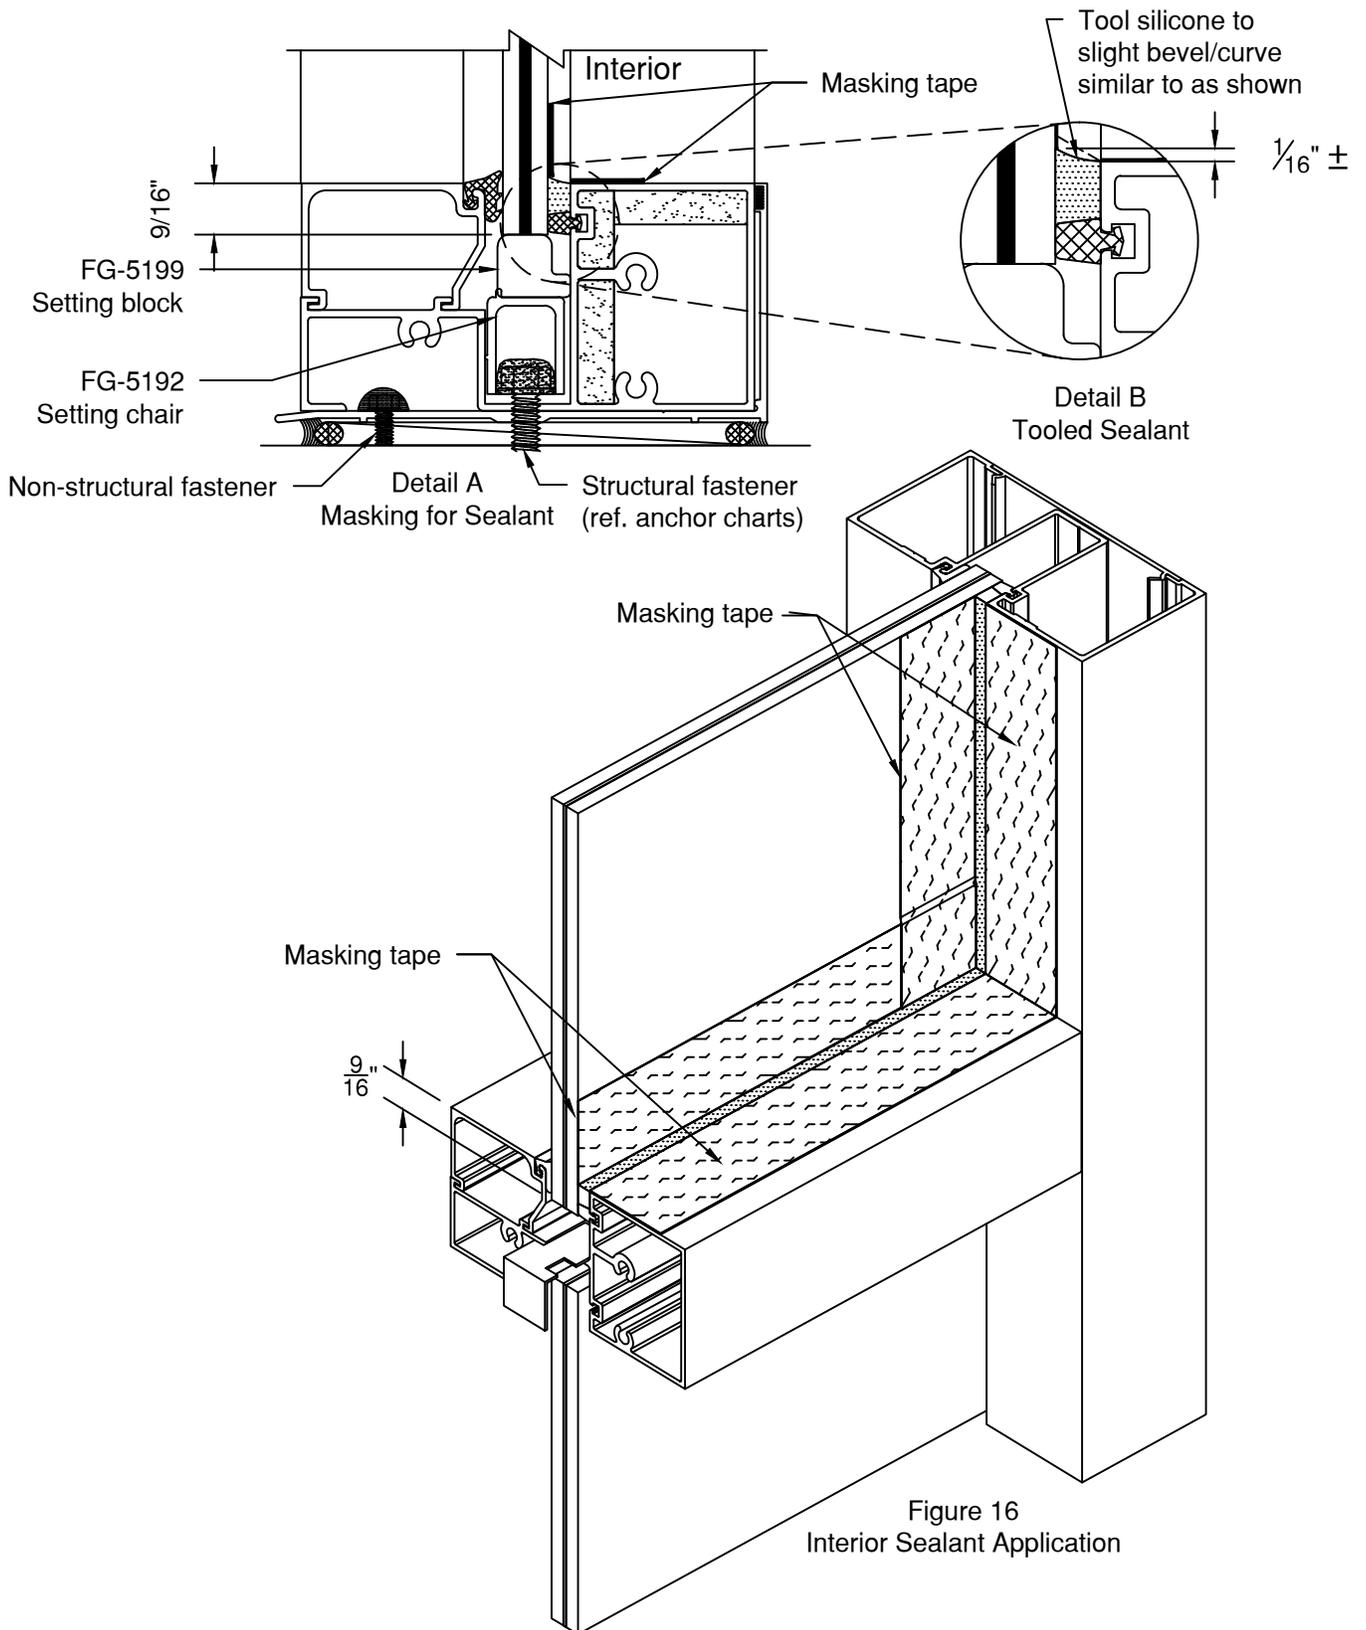

Figure 16
- 4W.2.1 Set glass into opening, push in to deep pocket first, at sill place glass on FG-5192 setting chair, then after centering in DLO, pull glass up and position FG-5199 setting block on setting chair (at 1/4 points) **See Figure 16 on Page 19** At horizontal same procedure is used, except no setting chair is used.
4W.2.6 Mask off glass and aluminum with 1" wide (minimum) low adhesion masking tape. **SEE Figure 16.** Working a single DLO at a time, Fill cavity around full perimeter of DLO with Dow Corning 995 sealant as shown, care should be taken not to leave any voids and eliminate air bubbles in sealant **(See Detail. A).** Immediately tool, creating a finished joint with a beveled/curved joint surface **See detail B above right.**